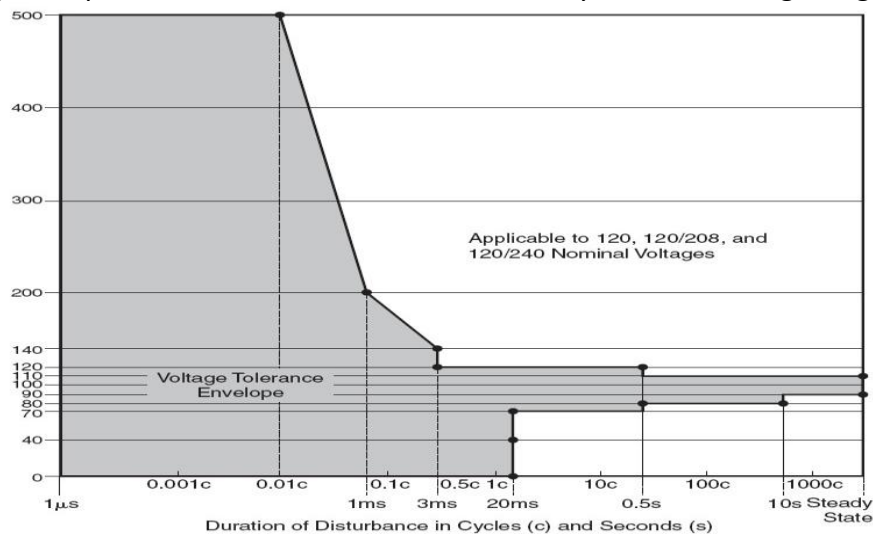

Fig 1.6 ITI curve for susceptibility of 120-V computer equipment.
- The CBEMA organization has been replaced by ITI, and a modified curve has been developed that specifically applies to common 120-V computer equipment (see Fig.1.6). The concept is similar to the CBEMA curve. Although developed for 120-V computer equipment, the curve has been applied to general power quality evaluation like its predecessor curve.